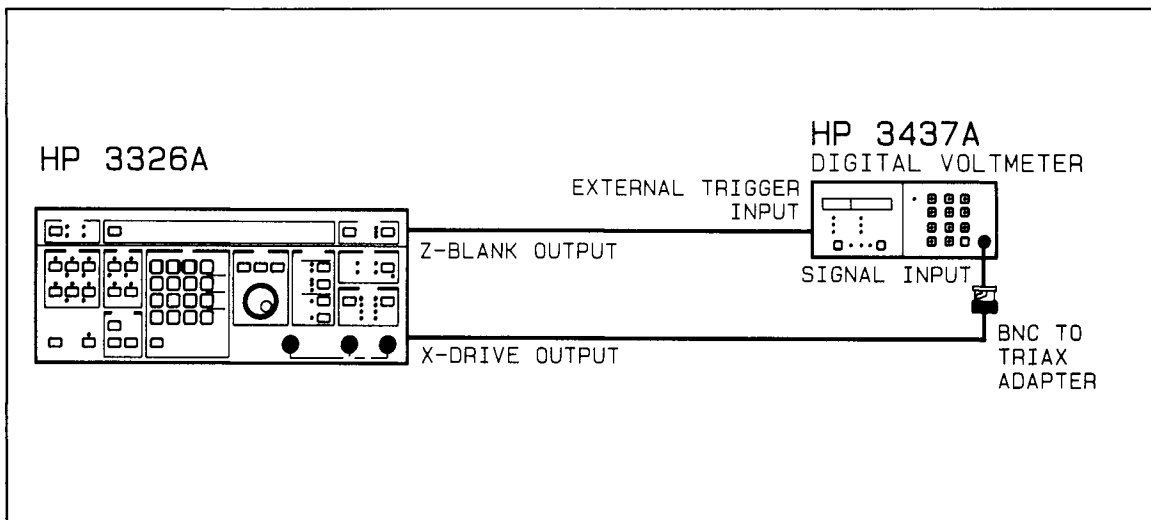

Figure 2-20. X-DRIVE Linearity Test
2. Connect the test equipment as follows (illustrated in Figure 2-20):